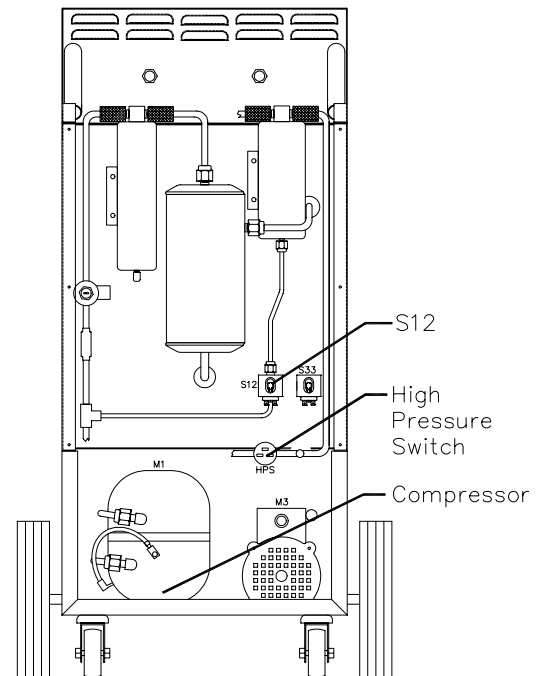

Figure 1
2. **High Pressure Switch (HPS) defective** (Figure 1)
- 2. High Pressure Switch defective** (Figure 1)